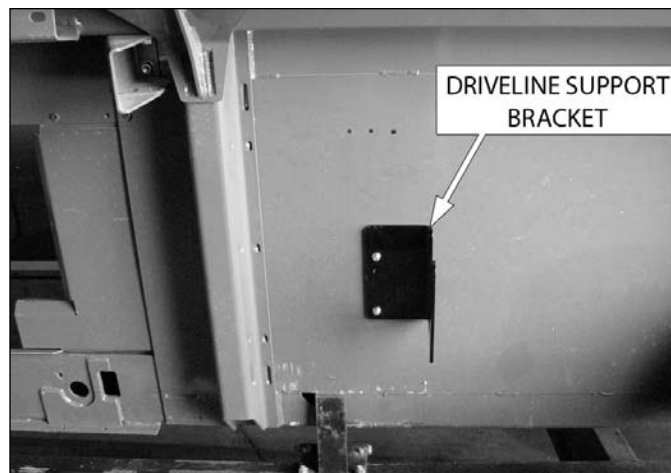

Figure 6, Driveline support bracket
10. Determine an appropriate location to mount the driveline support bracket (see Figure 6 for reference). You may mount the bracket to existing holes in the header if available. Otherwise, mark and drill two 13/32" holes through the header for the bracket. Install it with two 3/8" x 1" hex bolts, washers and serrated flange nuts.